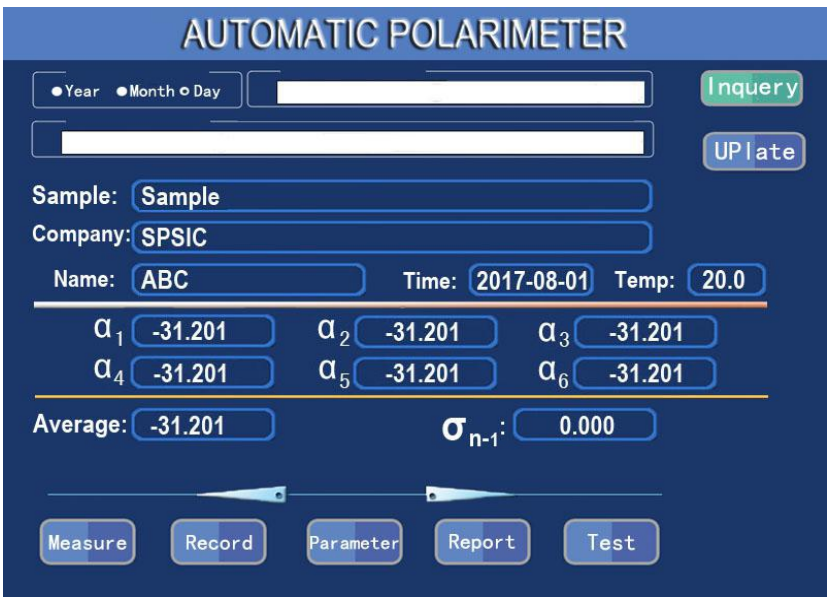

Figure 10
(1) The page has the function of searching records, according to the "search" key to look for the record. See Figure 10